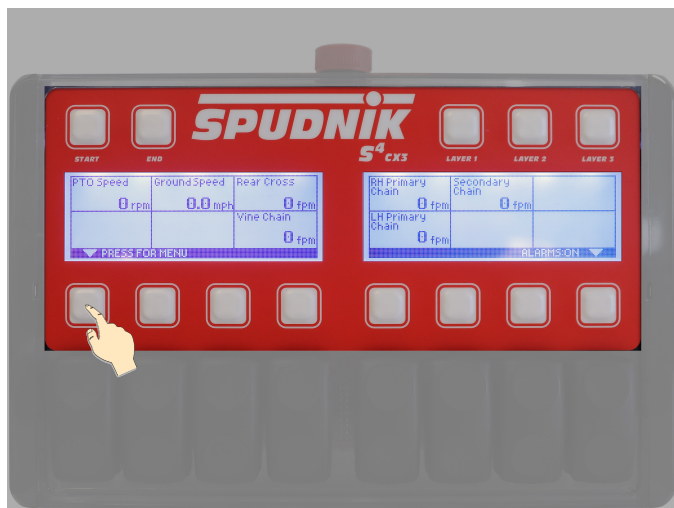

Figure 13
Before initial operation, review and confirm completion of necessary pre-run setup and programming. All pre-run setup and programming is accessed via the *MENU* screen on the CX3 controller. (see Introduction to the CX3 Controller) From the Home screen, press soft key 1 (*PRESS FOR MENU*) to access the *MENU* screen. (See Figure 13)